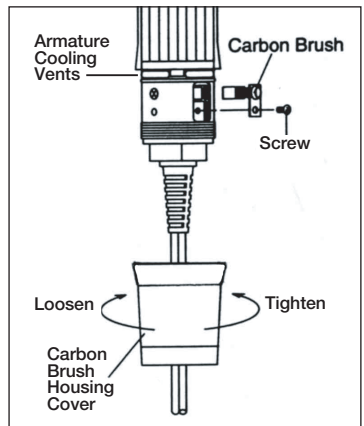

Fig. 7
2. To replace worn brushes, unscrew the Carbon Brush Housing Cover in a clockwise direction (Fig. 7).
To remove this dust, unscrew the Cover in a clockwise direction. Blow air into the Cover and the Armature Cooling Vents (See Fig. 7 on page 8).